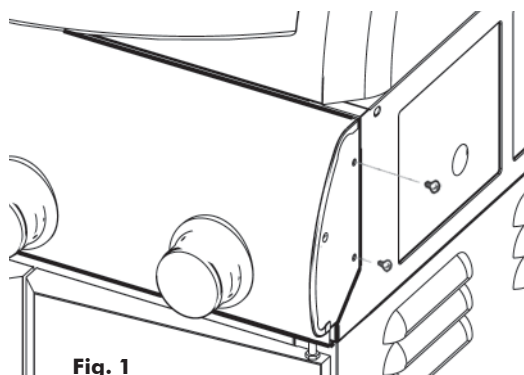
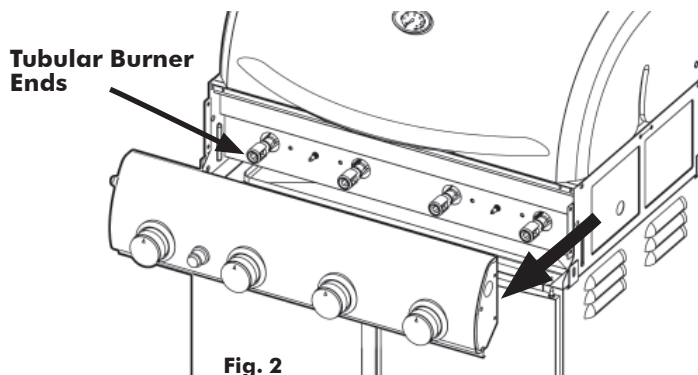

Fig. 1
Fig. 2
4. Figures 1, 2, 4 and 4a show the grill at assembly step 9, prior to attaching the Side Tables and illustrate the initial steps in the "FIRST TIME USE LEAK TEST".
Detach the Control Panel from the Grill Body/Firebox by removing the two 5/32" Bolts from each end. (Fig. 1) Gently pull the Control Panel away from the Body until Valves disengage from the Tubular burner ends. (Fig. 2) Support the Control Panel to keep tension off of the igniter wire leads or detach the wire leads from the Starter Button module.
10. Re-attach the wire leads to the Igniter button. Replace Control Panel around flanges at Bowl ends and align bolt holes on each side. Replace and retighten all bolts. (Fig. 1)